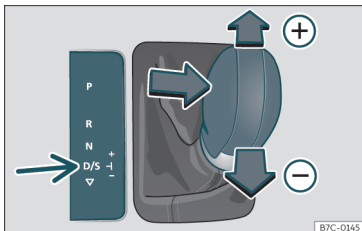

Fig. 198 Centre console: changing gear with tiptronic
- Move the selector lever forwards \oplus to select a higher gear \ggg **Fig. 198**.